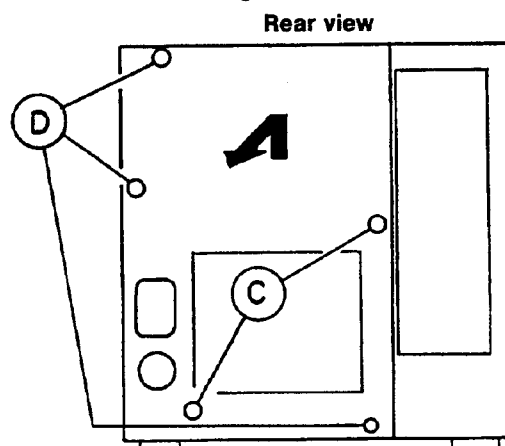

Fig. 2
- (1) Remove the top cover.
- (2) Remove the 2 screws ⑩ shown in Fig. 2.
- (3) Loosen the 3 screws ⑪.
- (4) Slightly slide the rear cover in the direction of the arrow and remove it.